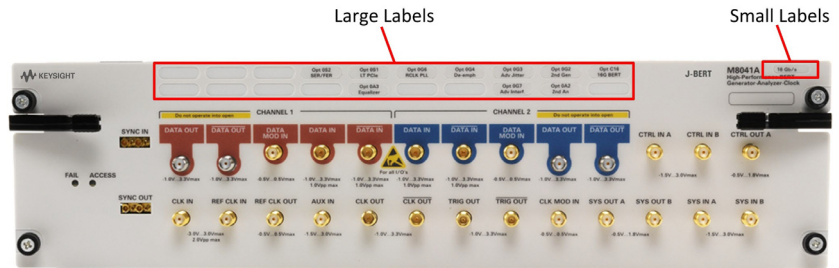

Figure 23 Affix option labels
- 2 Affix the option labels as shown in Figure 23 on page -61.